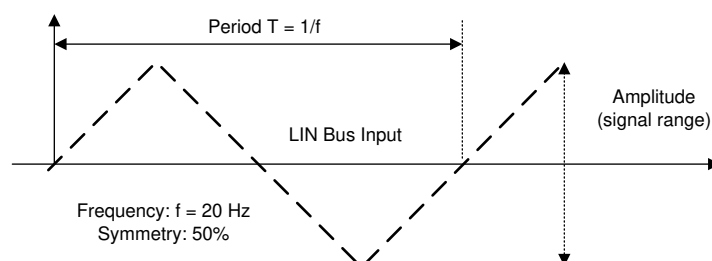
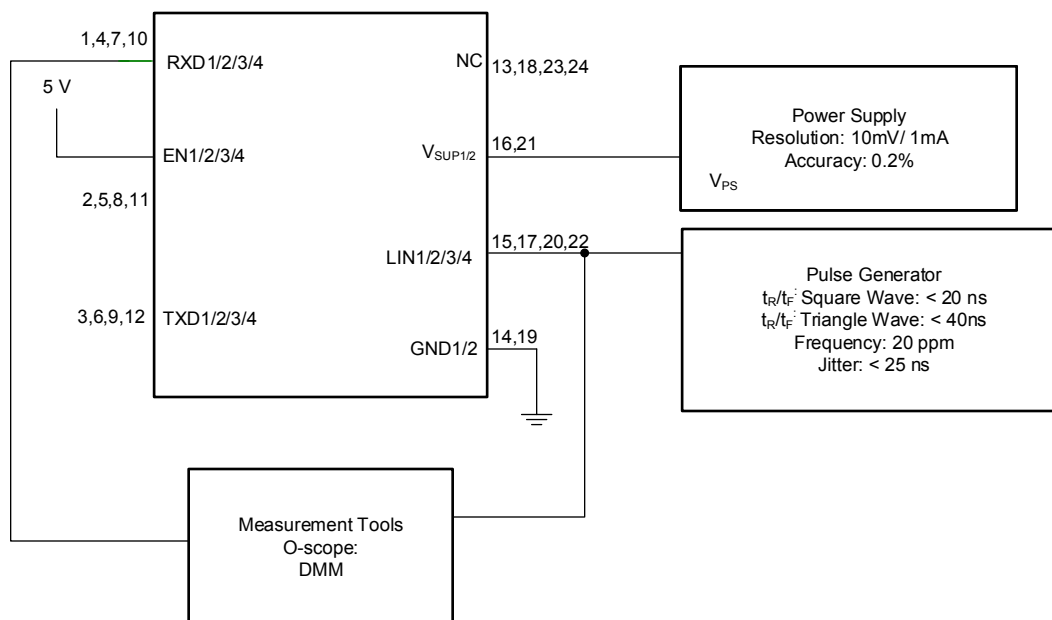

图 8-3. LIN Bus Input Signal
图 8-4. LIN Receiver Test with RX Access
| $V_{\text{BUSdom}}$        | Low level input voltage (ISO/DIS 17987 Param 17) (3)      | LIN dominant (including LIN dominant for wake-up); See <a href="#">Figure 8-4</a> and <a href="#">Figure 8-3</a>                  |       |     | 0.4   | $V_{\text{SUP}}$ |
| $V_{\text{BUSrec}}$        | High level input voltage (ISO/DIS 17987 Param 18) (3)     | LIN recessive; See <a href="#">Figure 8-4</a> and <a href="#">Figure 8-3</a>                                                      | 0.6   |     |       | $V_{\text{SUP}}$ |
| $V_{\text{BUS\_CNT}}$      | Receiver center threshold (ISO/DIS 17987 Param 19)                   | $V_{\text{BUS\_CNT}} = (V_{\text{BUSdom}} + V_{\text{BUSrec}})/2$ ; See <a href="#">Figure 8-4</a> and <a href="#">Figure 8-3</a> | 0.475 | 0.5 | 0.525 | $V_{\text{SUP}}$ |
| $V_{\text{HYS}}$           | Hysteresis voltage (ISO/DIS 17987 Param 20)                          | $V_{\text{HYS}} = (V_{\text{BUSrec}} - V_{\text{BUSdom}})$ ; See <a href="#">Figure 8-4</a> and <a href="#">Figure 8-3</a>        |       |     | 0.175 | $V_{\text{SUP}}$ |
| $V_{\text{HYS}}$           | Hysteresis voltage (SAE J2602)                                       | $V_{\text{HYS}} = V_{\text{IH}} - V_{\text{IL}}$ ; See <a href="#">Figure 8-4</a> and <a href="#">Figure 8-3</a>                  | 0.07  |     | 0.175 | $V_{\text{SUP}}$ |